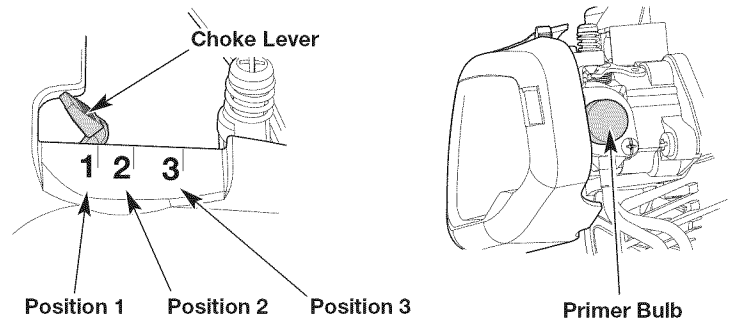

Fig. 5
3. Slowly press and release the primer bulb **10 times** (Fig. 5). If fuel cannot be seen in the primer bulb, press and release the primer bulb until fuel is visible.
4. Move the choke lever to **Position 1** (Fig. 5).
7. Continue to squeeze the throttle control. Move the choke lever to **Position 2** (Fig. 5).
10. Continue to squeeze the throttle control. Move the choke lever to **Position 3** (Fig. 5) and continue warming the engine for an additional 60 seconds. The unit may be used during this time.
IF... the engine hesitates, return the choke lever to **Position 2** (Fig. 5) and continue the warm-up.